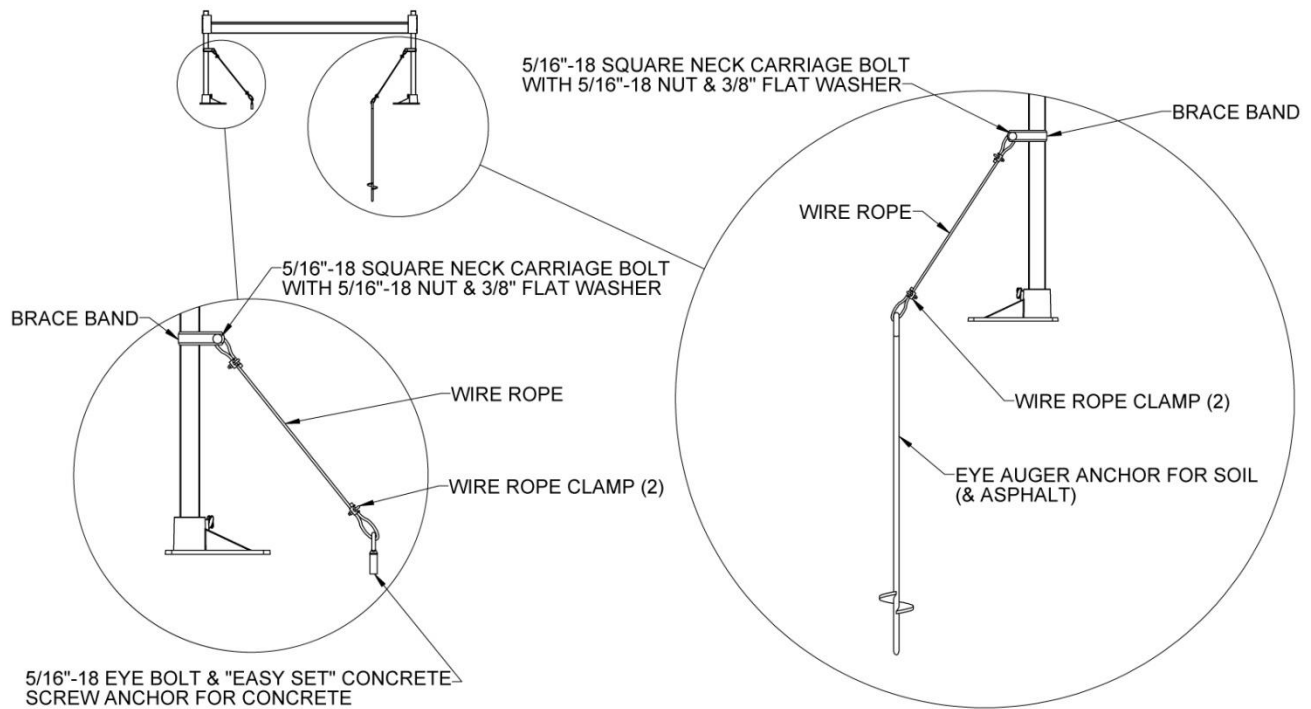

FIG. 6.24
- 6.9.1. For platforms, install one tie down at each corner where a support tube is installed (FIG 6.24).